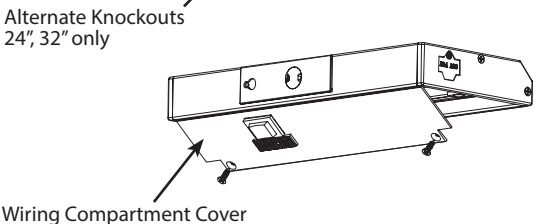
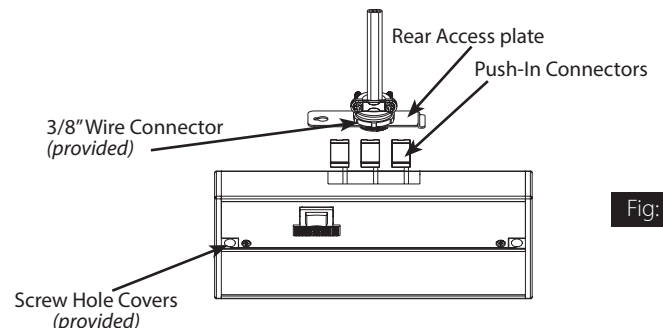

Fig: 3
Fig: 4
- To access internal wiring remove **Wiring Compartment Cover** (Fig. 3). Feed wires through **3/8" Wire Connector** (provided) and install connector to **Rear Access Plate**. Wire cable to **Push-in Connectors**. Secure **Rear Access Plate** to fixture (Fig. 4).
- Secure fixture to mounting surface using (2) flat head wood screws (provided), be careful not to drive screws all the way through the cabinet bottom. Use shorter screws if necessary (supplied by others). Once the fixture is secure to surface, insert **Screw Hole Covers** (provided).